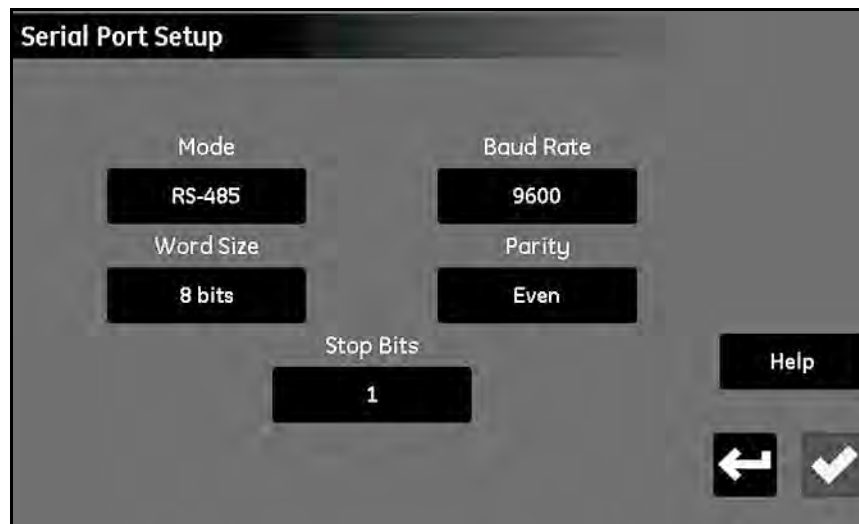

Figure 67: Serial Port Setup Screen
1. From the *Configuration Menu* screen (see *Figure 52* on page 57), tap the **Serial Port** button to open a *Serial Port Setup* screen similar to *Figure 67* below.